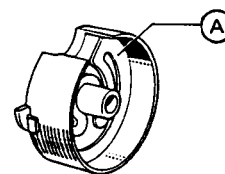

Fig. 25
(2) Use the bobbin case which has idel running prevention spring (A) at the bottom as shown in Fig. 25.